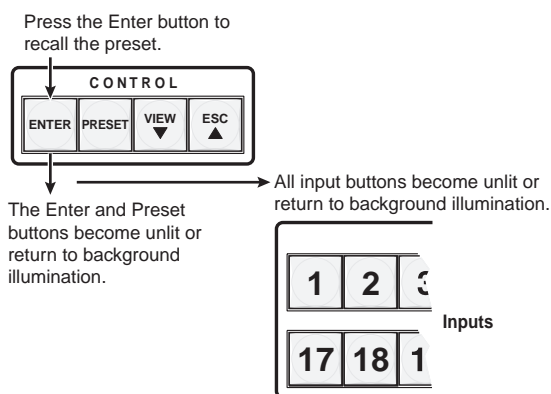

Figure 50. Pressing Enter to Recall the Preset
4. Press and release the Enter button (see figure 50). The configuration stored in selected memory location is now the current configuration and can be viewed in view-only mode (see Viewing the Configuration on page 24).